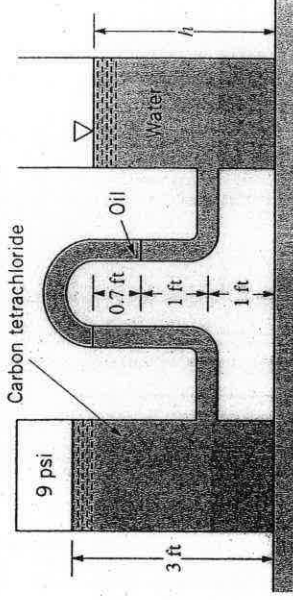

FIGURE P2.28
2.28 An inverted U-tube manometer containing oil ($SG = 0.8$) is located between two reservoirs as shown in Fig. P2.28. The reservoir on the left, which contains carbon tetrachloride, is closed and pressurized to 9 psi. The reservoir on the right contains water and is open to the atmosphere. With the given data, determine the depth of water, h , in the right reservoir.